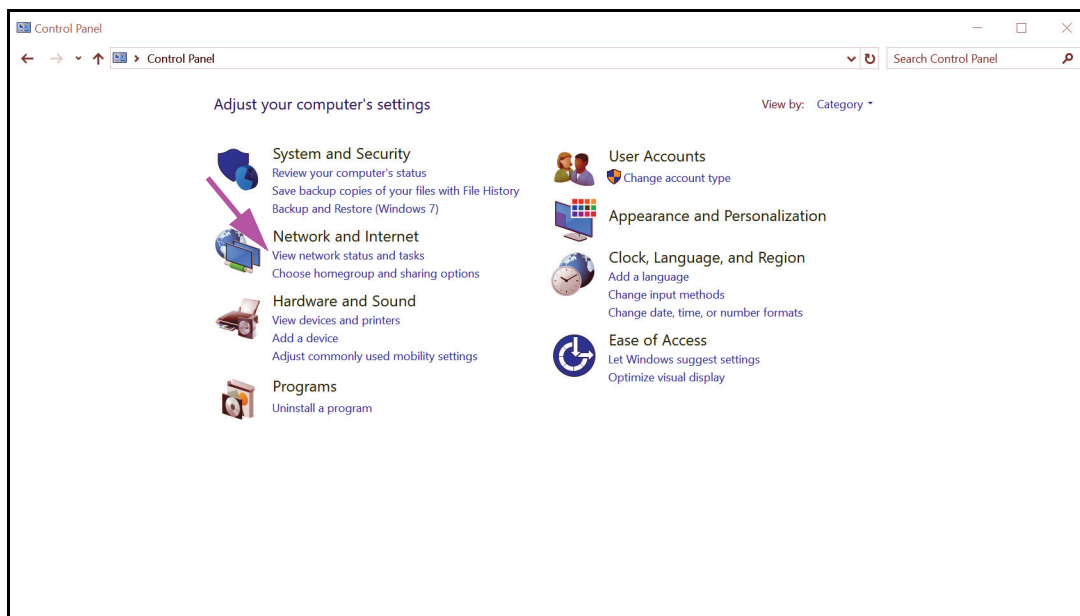

Figure 2-15. All Control Panel Items Window—Category View
3. Select **Control Panel**. If the view is set for **Category**, the screen appears as shown in Figure 2-15.